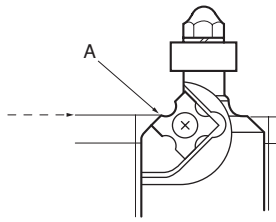

Fig.9
4-7. Adjustment of R surface chamfering and procedure. (Fig.9)
- (1) Install R tip (3-4).
- (2) As in Figure 9, adjust the height of the Disk to be aligned with the Indexable Insert. (Point A)
- (3) Do the test chamfering and check its finishing condition before starting the actual chamfering on the work piece.